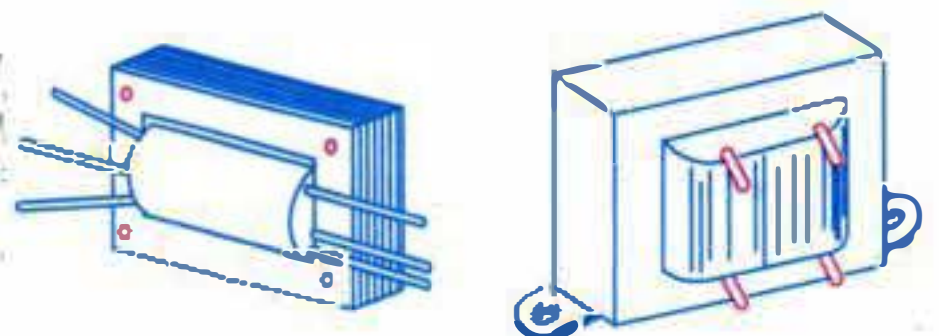

Fig. 7.17
1. Audio Frequency (AF) Transformers
They are designed to operate over the audio frequency (AF) range of 20 Hz to 20 kHz, have laminated core and are usually smaller than power transformers. They are primarily used for impedance matching and, in some cases, for voltage amplification. Two such typical transformers are shown in Fig. 7.17. Such transformers are usually designated according to their applications as input or output transformer,